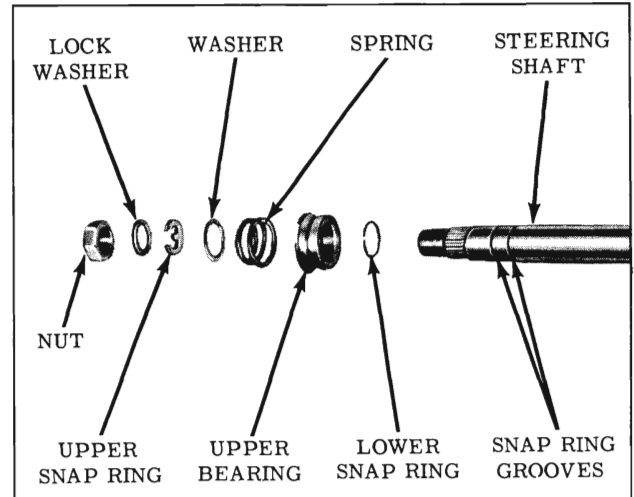

Fig. 4-300 Upper Shaft Assembly
18. Install new upper bearing lower snap ring retainer onto the steering shaft and position in snap ring groove. (Fig. 4-300)
“E” ring retainer onto steering shaft. (Fig. 4-300)